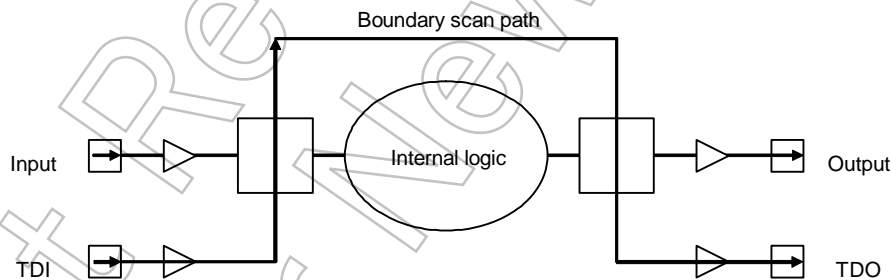

Fig. 20-12 Flow of Test Data While PRELOAD Is Selected
- The PRELOAD instruction is used to initialize the boundary scan register before selecting other instructions. For example, the boundary scan register is initialized using PRELOAD before selecting the EXTEST instruction, as previously explained. PRELOAD shifts data into the boundary scan register without affecting the normal operation of the system logic. Fig. 20-12 shows the flow of data while the PRELOAD instruction is selected.